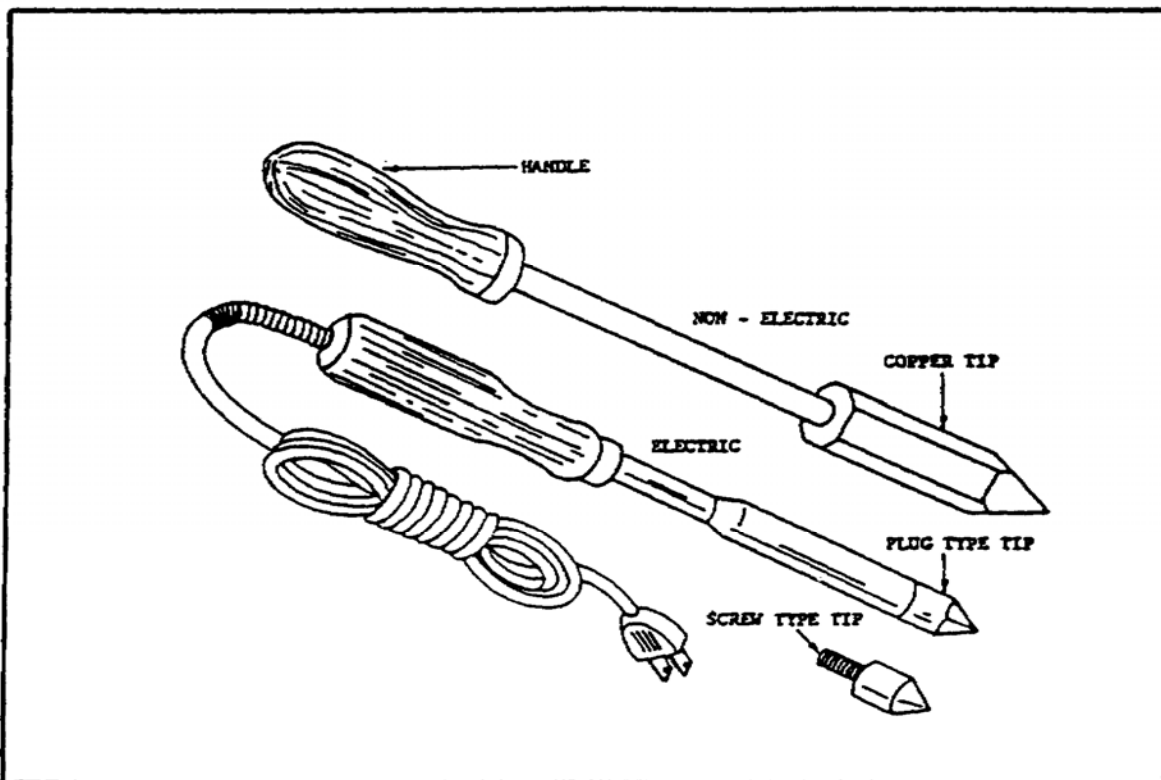

FIGURE 56. SOLDERING IRONS.
(1) *Electric Soldering Iron.* The electric soldering iron (figure 56) transmits heat to the copper tip after the heat is produced by electric current flowing through a self-contained coil of resistance wire, called the heating element. Electric soldering irons are rated according to the number of watts they consume when operated at the voltage stamped on the iron. There are two types of tips on electric irons: plug tips, which slip into the heater head and are held in place by a setscrew, and screw tips which are threaded, and which screw into the heater head. Some tips are offset and have a 90 degree angle for soldering joints that are difficult to reach (not illustrated).
(2) *Nonelectric Soldering Iron.* A nonelectric soldering iron (figure 56) is sized according to its weight. The commonly used sizes are the 1/4, 1/2, 3/4, 1, 1 1/2, 2, and 2 1/2 pound irons. The 3, 4, and 5 pound sizes are not used in ordinary work. Nonelectric irons have permanent tips and must be heated over an ordinary flame, or with a blowtorch.